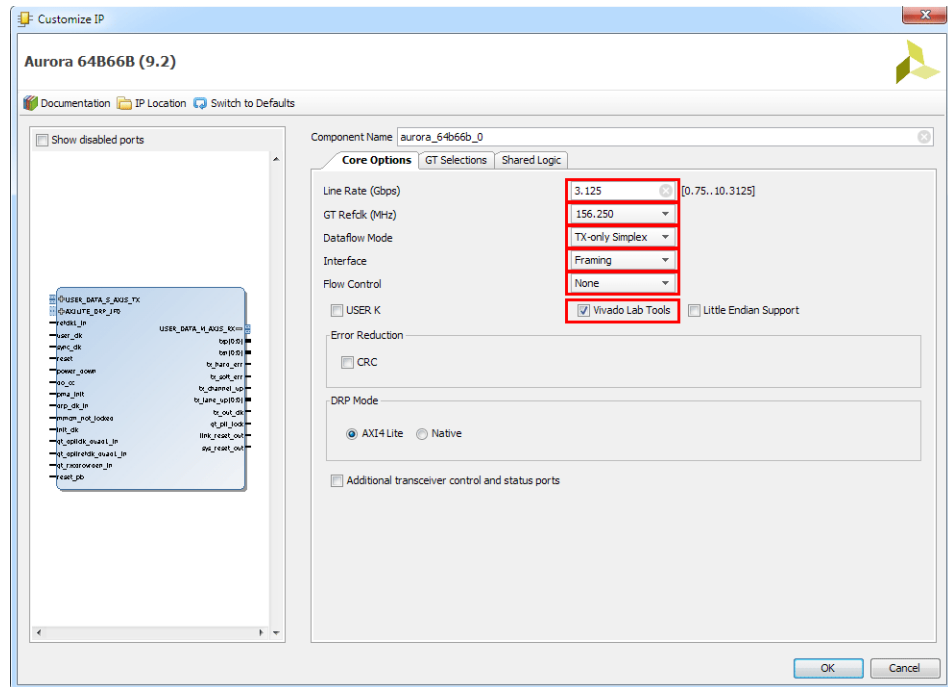

Figure 8: Aurora 64B/66B Simplex Core Options Settings
9. In the **Core Options** tab of the Customize IP window, set these options (see Figure 8):